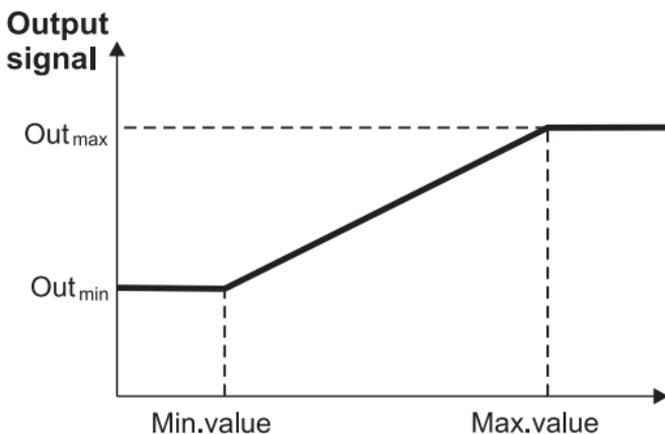

Fig.6.3. Calibration of the retransmission continuous output
- define controlled signal values corresponding to output ranges - see fig. 6.3. This allows to retransmit the chosen quantity in the interested range with a satisfied precision.